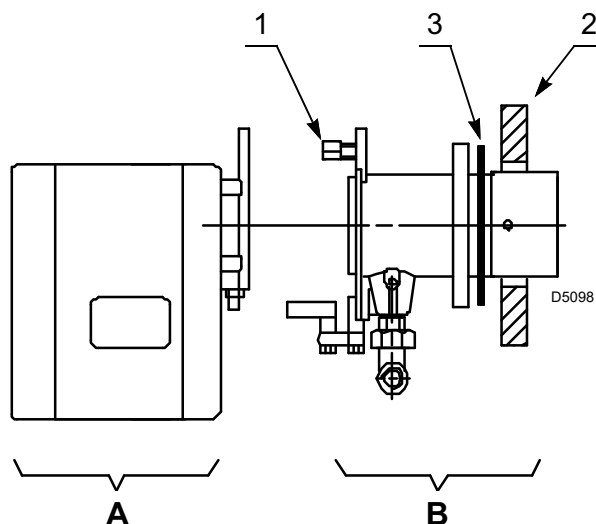

Fig. 13
- Separate the combustion head assembly from the burner body by removing nut 1) and removing the group **A**)(Fig. 13).
- Fix the group **B**)(Fig. 13) to the boiler plate 2), inserting the supplied insulating gasket 3).